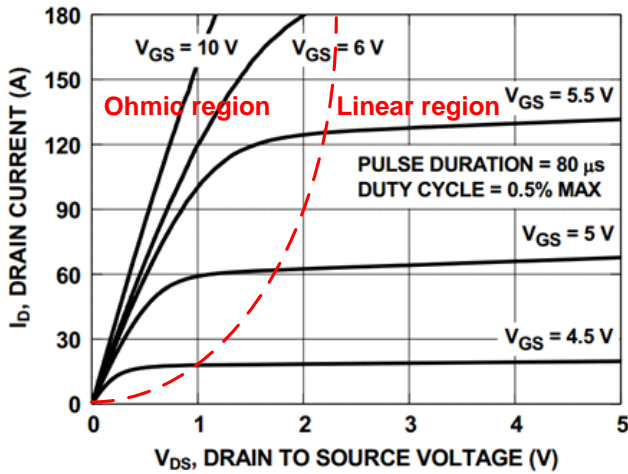

Figure 8. On-Region Characteristics
- Limited by the thermal run away in the linear region, Figure 8 shows the I_D as the function of the V_{DS} at a given V_{GS} . The on-state operation of a MOSFET is divided into the ohmic region and the linear region, defined by $V_{DS} = V_{GS} - V_{GS(th)}$ as the boundary line. In the ohmic region, located to the left of the boundary line ($V_{DS} < V_{GS} - V_{GS(th)}$); the I_D is defined by Ohm’s law and increases linearly with the incremental drain voltage. In the linear region, to the right of the boundary line ($V_{DS} > V_{GS} - V_{GS(th)}$); the I_D differs by the V_{GS} , not by V_{DS} . For example, when the V_{DS} is 4 V and V_{GS} is 4.5 V, the FDMS86101A operates in the linear region and its I_D stays at around 17 A. To increase I_D , a higher V_{GS} should be applied to the gate.